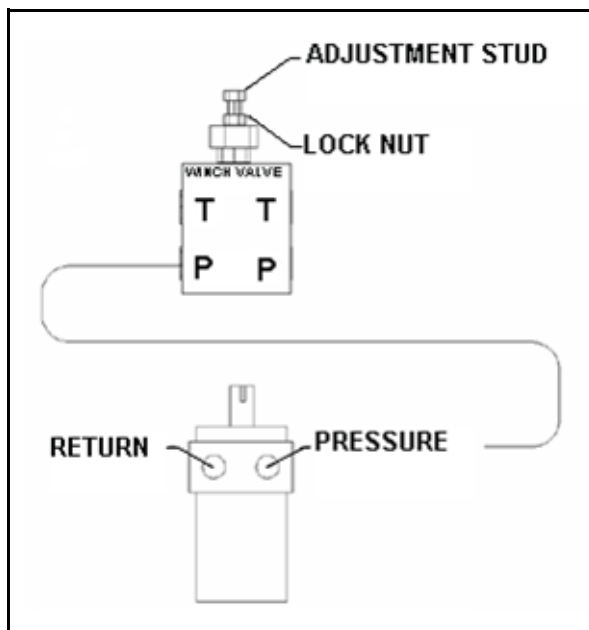

Figure 3.28 Hydraulic Motor
2. Loosen the locknut on the outside body of the kickout (Figure 3.28). The kickout is screwed into the side of the winch valve block. After loosening the lock nut, decrease the pressure by turning out the stud. Increase the pressure by turning in the stud.